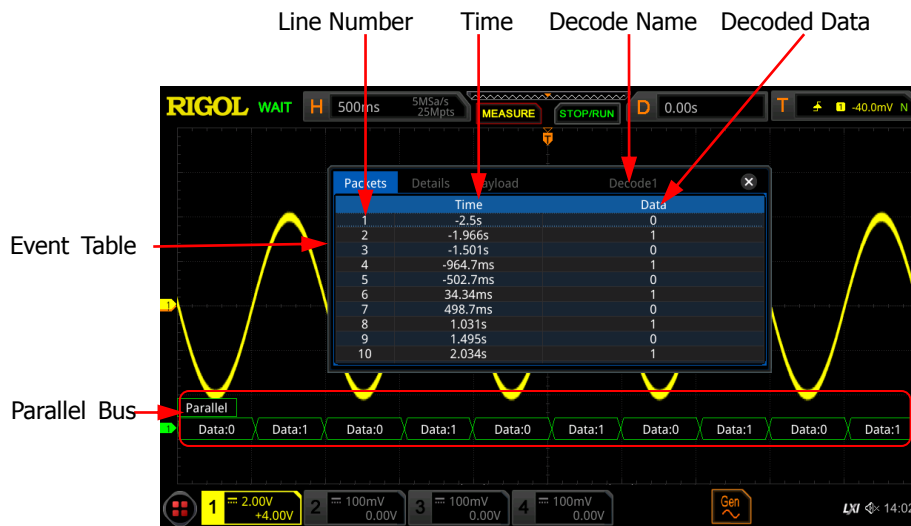

Figure 11-2 Parallel Decoding Event Table
- Open or close the event table: Click **Event Table** continuously to enable or disable the event table. When you enable the event table, the following figure is displayed, as shown in Figure 11-2. You can also